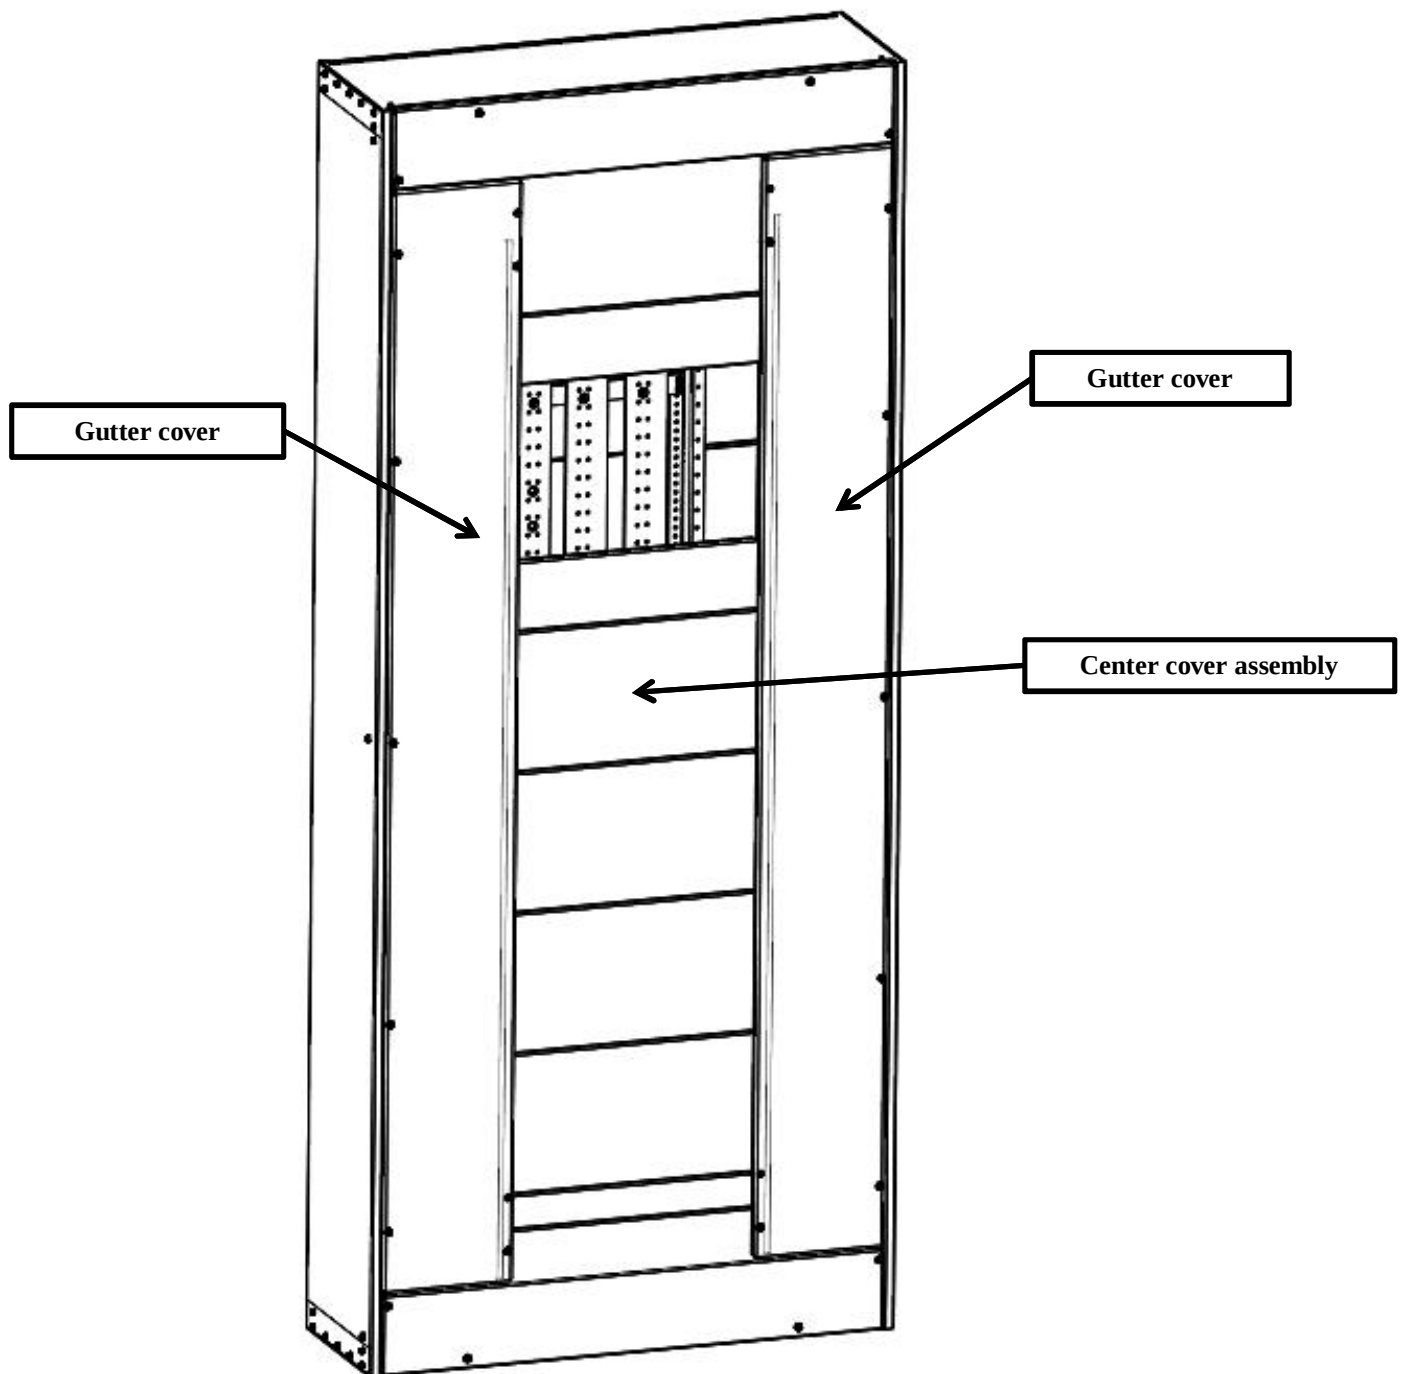

Figure 7
7. Remove the panel board gutter covers and center cover assembly as shown in Fig. 7.